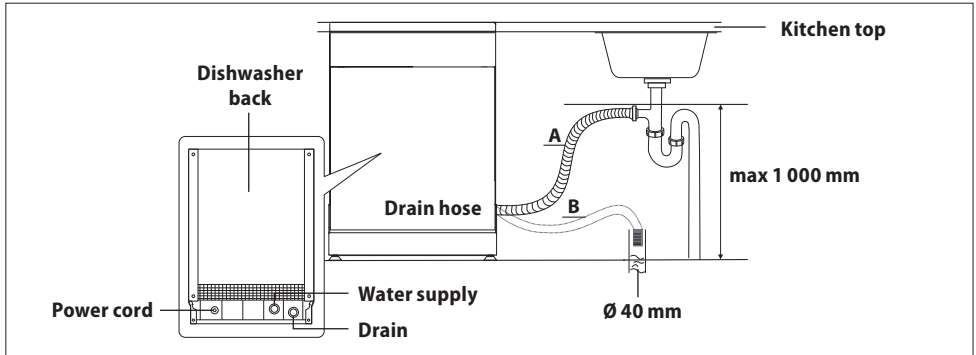

Fig. 19
5. Connect the drain hose according to Fig. 19.
Connect the drain hose to the waste pipe with a minimum diameter: 40 mm (Fig. 19). Make sure the drain hose is not bent or squeezed to prevent slowing down or stopping of the water flow.
The height of the waste pipe must be less than 1,000 mm (Fig. 19) and the drain hose should not be submerged in water. Secure the drain hose properly to prevent unwanted loosening from the waste pipe.